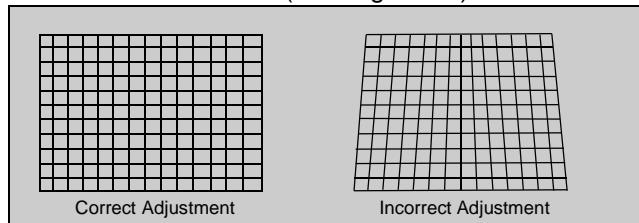

Figure 32. Trapezoid Adjustment
3. Adjust DAC EWTRA (trapezoid) by pressing VOL right-left to correct image, less than 30mm on top and bottom left side (See Figure 32).